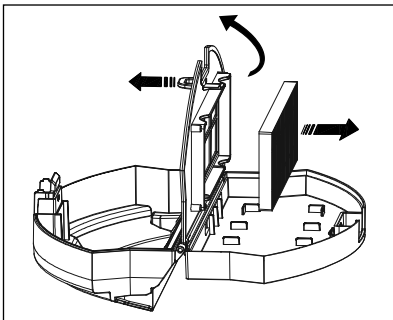

Fig. 10
- 4) Grasp the tab on the sieve filter, and open the EPA filter compartment **7**. Remove the EPA filter **7** from the compartment (see Fig. 10).